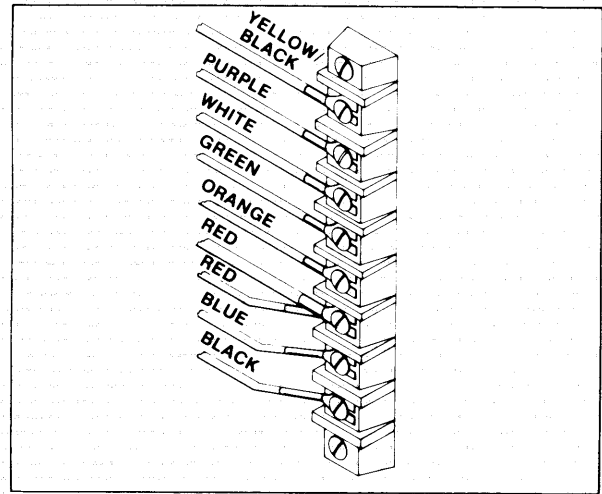

Figure 4—Connecting Lead Wires to Terminal Block
- B. Connect lead wires to terminal block as as shown in figure 4.